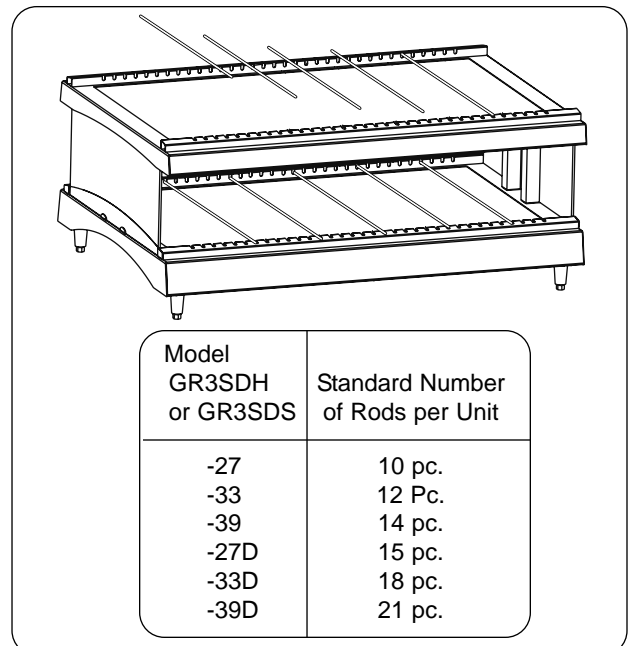

Figure 7. Installing Product Divider Rods
7. The unit is supplied with product divider rods. To install them, place the rods in the channels provided. (See Figure 7.) The rods can be readily adjusted to separate your holding areas as needed.